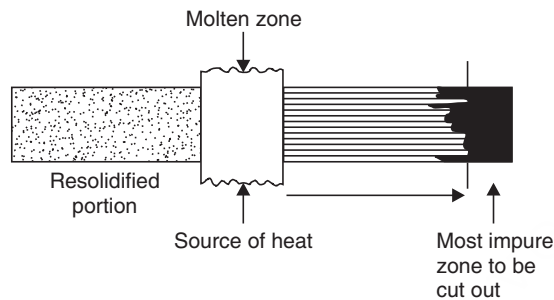

Fig. 14.12 Zone refining.
- *Zone refining* (Fig. 14.12). This process of purification is employed effectively in some special cases. The advantage is taken out of the fact that the impurities are more soluble in the molten metal than the solid metal and the molten metal on resolidification crystallises out as a pure metal. The actual process is: a narrow rod of impure metal is taken and a small portion of it at one end is almost melted by application of heat. This small molten zone is gradually and slowly shifted to the other end of the rod by gradual shifting of the source of heat. At last the molten zone containing all the impurities